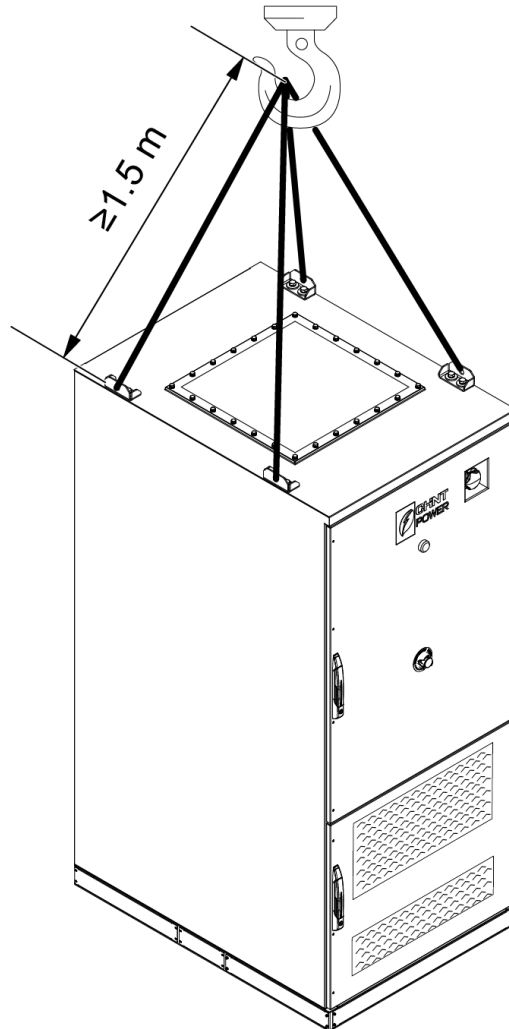

Fig. 3-3 Hoisting
- The length of single lifting belt must be longer than 1.5 m, as shown in Fig. 3-3 Hoisting.